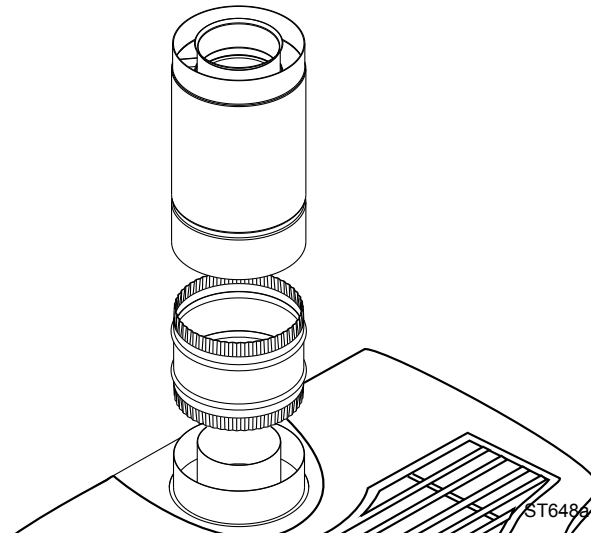

Fig. 21 Attach inner assembly to flue collar.
9. Place a 3/8" bead of millpack caulk around the 4" crimped end of the starter collar on the stove. Attach the SLP pipe to the adapter, and secure by aligning adapter and pipe seams, pressing down firmly until pipe stops, and twisting to lock into place. (Figure 21)